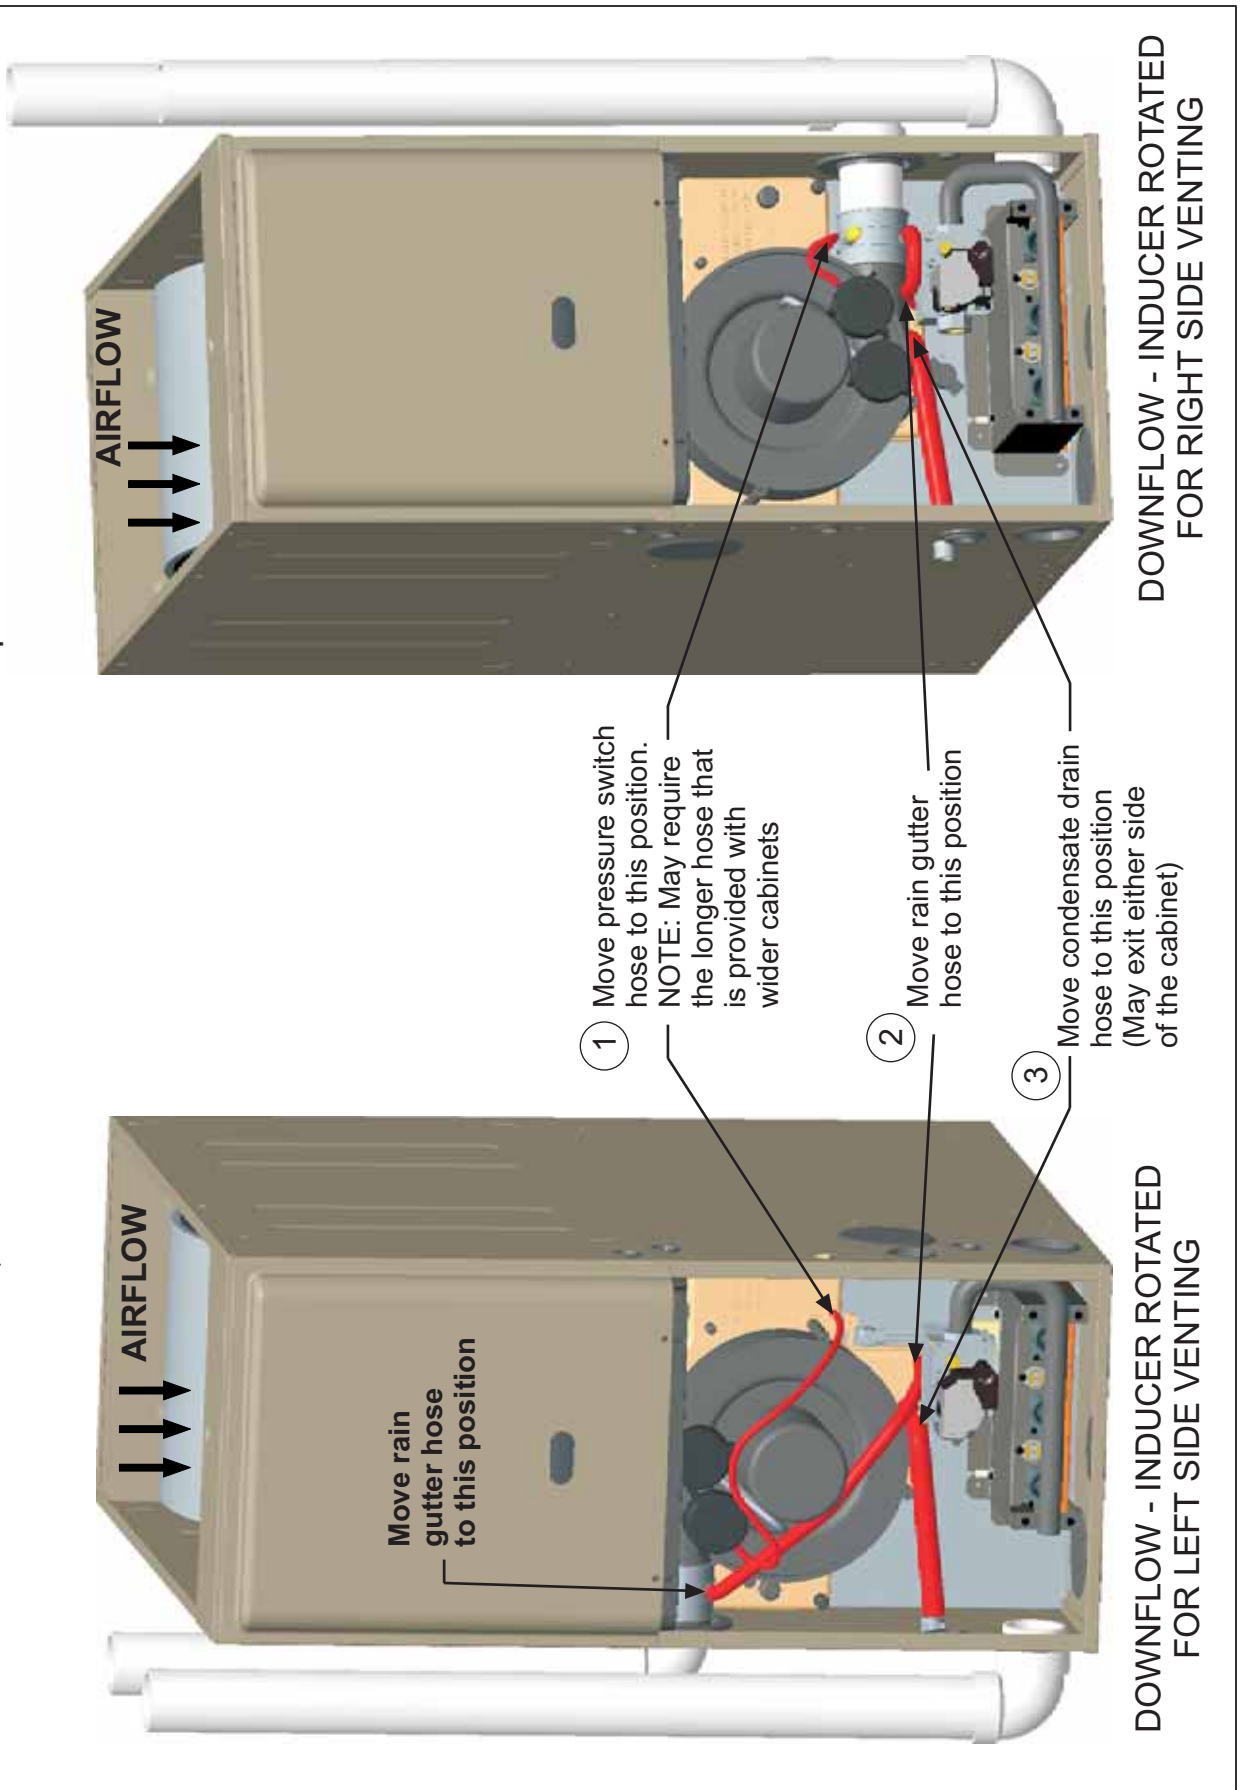

FIGURE 17: Downflow Configuration
2. Remove the wiring box cover screws. Route all power wiring through a conduit connector or other proper bushing that is field installed into the unit opening and the junction box. In the junction box there is a black wire, a white wire and a green ground screw. Connect the power supply as shown on the unit's wiring label located on the inside of the blower compartment door, or the wiring schematic in this section. Connect the black wire to L1 (hot) from the power supply. Connect the white wire to neutral. Connect the ground wire (installer-supplied) to the green (equipment ground) screw. An alternate wiring method is to use a field-provided 2" (5.1 cm) x 4" (10.2 cm) box and cover on the outside of the furnace. Route the furnace leads into the box using a protective bushing where the wires pass through the furnace panel. After making the wiring connections, replace the wiring box cover and screws. Refer to Figure 17.
3. The furnace's control system requires correct polarity of the power supply and a proper ground connection. Refer to Figure 17.